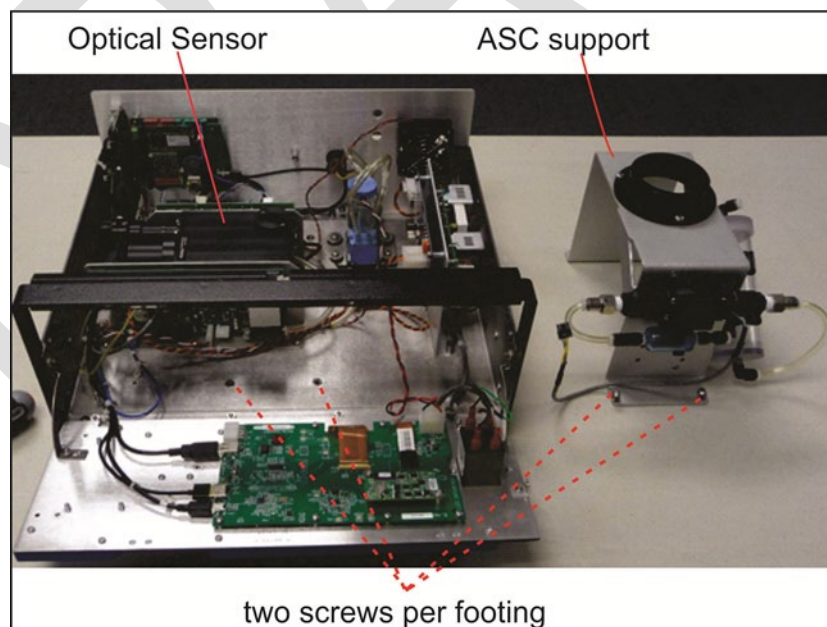

Figure 5. Maintenance: Optical Chamber and RH/T Sensor Access.
12. Remove the ASC support, which straddles the sensors. Four screws secure that support to the floor of the instrument, two on each footing (Figure 5). Note: it is possible to clean the optics without removing the ASC support; however, removing the ASC support will allow more room to access the tubing lines and optical chamber.